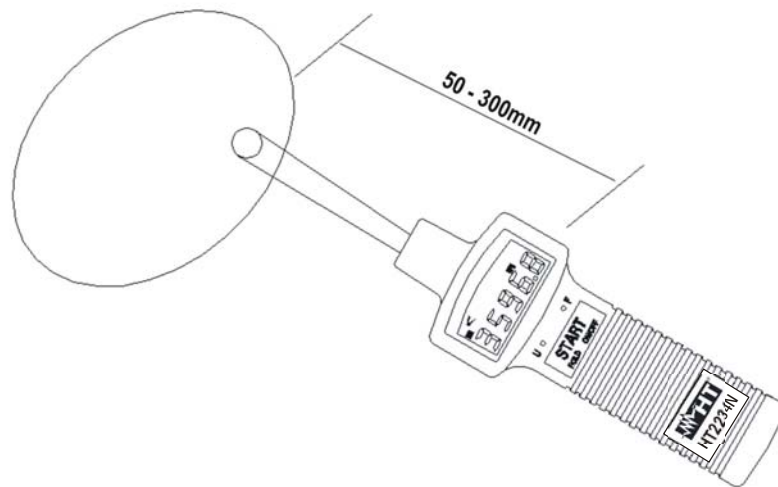

Fig. 2: speed measure without contact (RPM)
6. Aim the meter to the object on test (see Fig. 2):